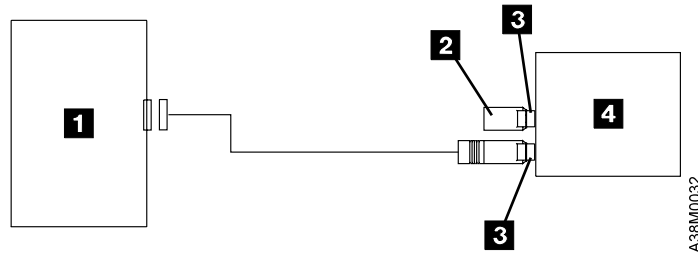

Figure 4. Example of Attaching One SCSI Device to the System Unit. The view is from the side.
- If the 7210 DVD-RAM Drive is the only device on the SCSI bus, connect the cable to the host system (see Figure 4 on page 9). Connect a terminator to the unused SCSI bus cable connector.
- If the 7210 DVD-RAM Drive (**4** in Figure 4 on page 9) is the only SCSI device attached to the host system **1**, install the terminator **2** on one of the dual connectors **3**.